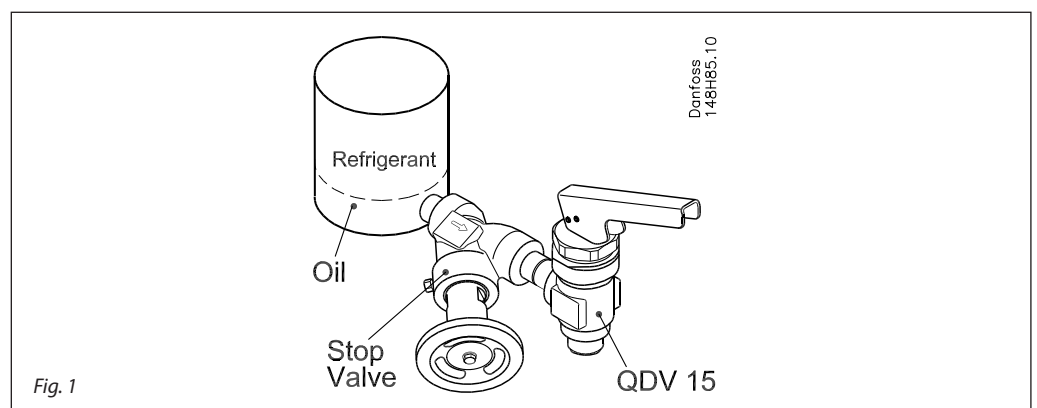

Fig. 1
The valve will close immediately on release of the handle, thus protecting user and environment against unnecessary refrigerant leaks. The valve should as a rule be installed as illustrated in fig. 1.
- Can be supplied together with a stop valve for quick on site mounting (fig. 1).